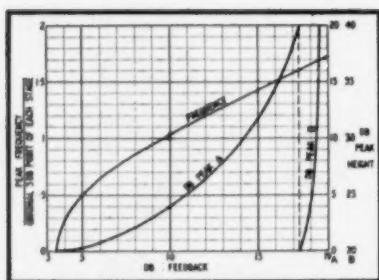
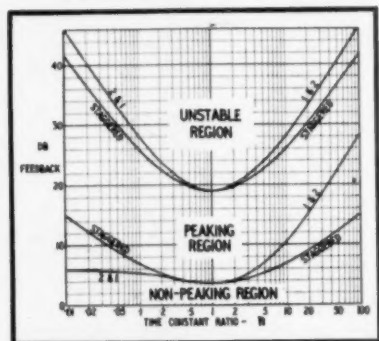

Fig. 5. Effect of negative feedback on frequency and height of peak, using a feedback loop with three identical stages.
Fig. 6. Limit chart to aid in assessing performance of three-stage loops with non-identical time constants.
For three-stage networks, Fig. 5 shows a plot of expressions (27) and (28) for identical networks, and Fig. 6 a plot of expressions (31), (32), (36), and (37) for non-identical loops. Figure 5 gives an idea of the rate at which transition from one boundary to the other occurs, while Fig. 6 shows the boundaries for limiting cases, using a maximum time constant ratio of  $n$ . Fractional values of  $n$  mean that the two similar time-constant cutoffs come into action before the remaining one, and vice versa with values greater than unity. With the staggered arrangement the curves are obviously symmetrical for both boundaries. For the stability boundary they are both symmetrical, but the one and two arrangement gives the highest peaking boundary for values of  $n$  greater than unity, that is, when one network introduces cutoff acting nearer the pass range than the other two.